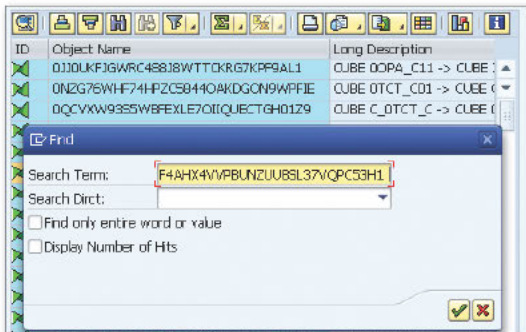

Figure 2 Searching for the Transformation Routine
2. In the ensuing screen, enter the search routine ID "04ASA9AA9ZL19LG3TV-C645A9LPJFPZ3X" (see Figure 2).
4. Right-click the new variable, and select **EDIT**; enter a **DESCRIPTION** and **TECHNICAL NAME** as shown in Figure 2.
➤ *Figure 2 Enter a Description and Technical Name*
4. Click over to the **DATA PROVIDER** tab (see Figure 2).
⤴ *Figure 2 Web Analyzer Data Provider Tab with Maximum Number of Cells for Result Set Options*